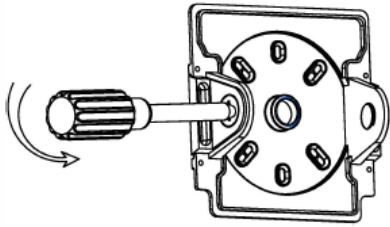

Fig. 8
5. Remove one of the 1/2" end cap and pull wire through (fig. 8)